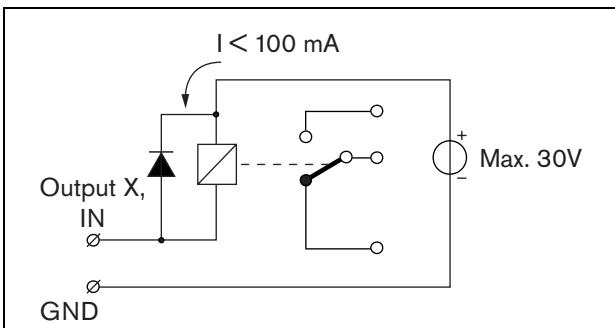

figure 19.6: Externally powered relay
- Externally powered relay. See figure 19.6 for a connection diagram.